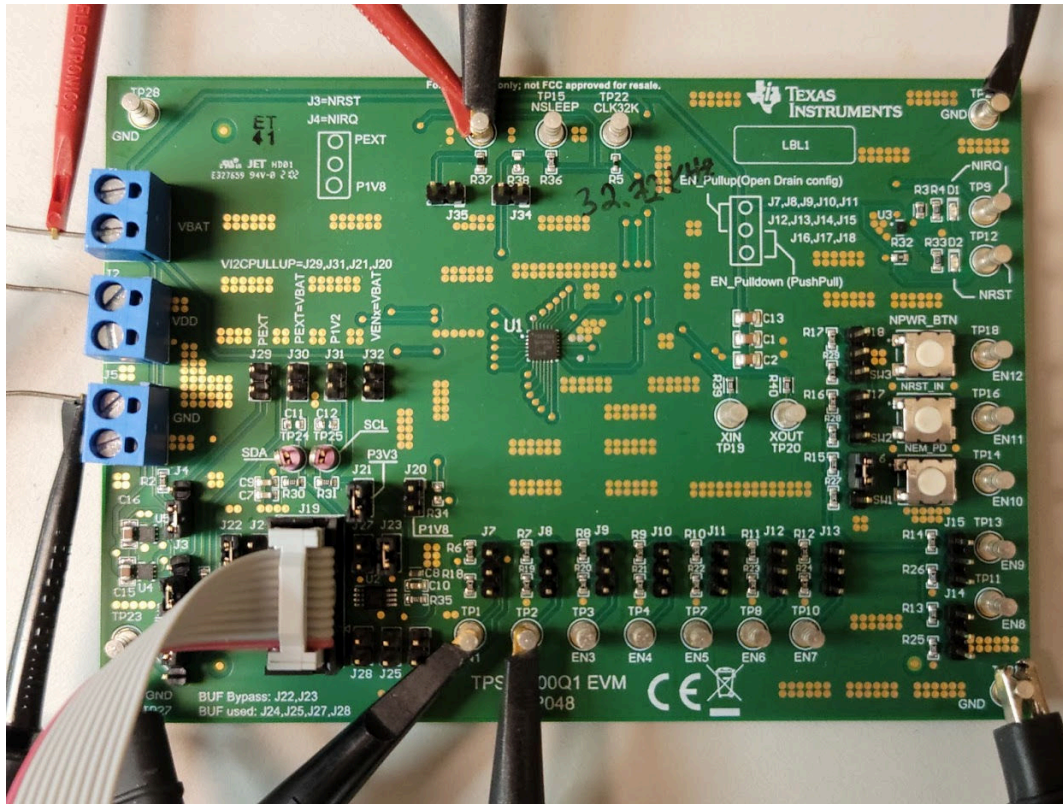

Figure 4-1. EVM Connections for Testing EN1 and EN2
9. Final connections should look similar to . Figure 4-1.